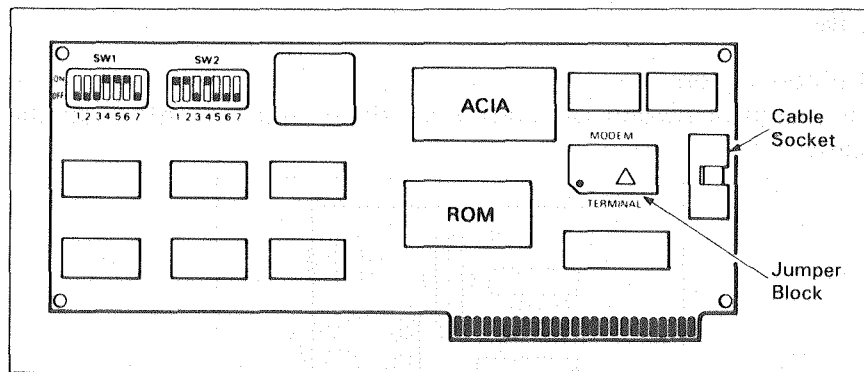

Fig. 9-5
- ① An RS-232C interface card (Apple II Super Serial Card) is required.
- ② Set the DIP Switch of Apple II Super Serial Card as shown in Fig. 9-5 below.
- ③ Set the jumper block of Apple II Super Serial Card so that a triangle is as shown in Fig. 9-5 below.